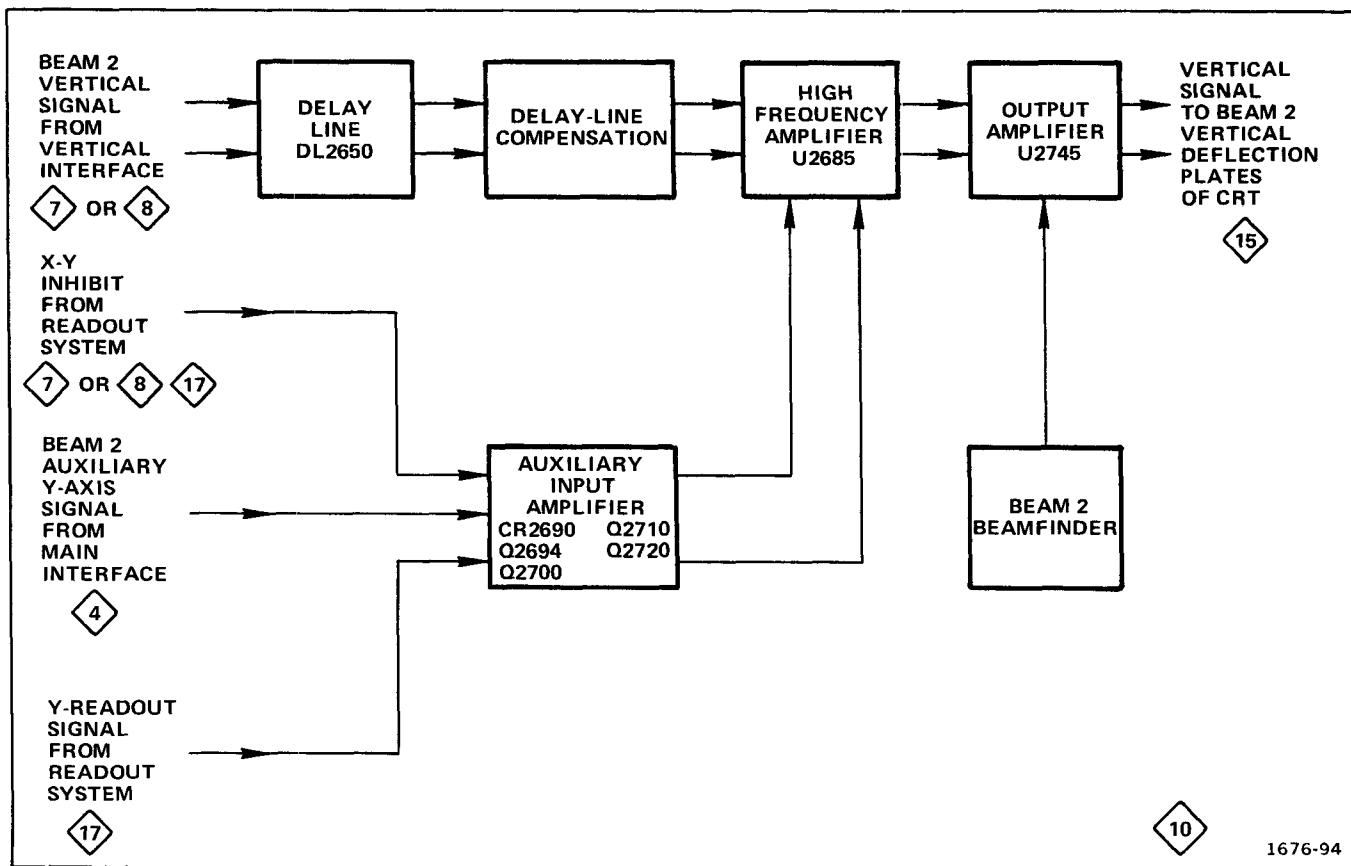

Fig. 3-17. Detailed block diagram of the Beam 2 Vertical Amplifier circuit.
accepts the auxiliary Y-axis input from the Main Interface circuit (diagram 4). Figure 3-17 shows a block diagram of the Beam 2 Vertical Amplifier and a schematic is shown on diagram 10 in the Diagrams section of this manual.
The Beam 2 Vertical Amplifier contains readout circuitry in the Auxiliary Input Amplifier stage (see Fig. 3-17); otherwise, operation is identical to the Beam 1 Vertical Amplifier. The Beam 2 Vertical Amplifier circuit numbers are in the 2000-series, whereas, the Beam 1 Vertical Amplifier circuit numbers are in the 1000-series. For example, U1685 on the Beam 1 Vertical Amplifier (diagram 9) corresponds to U2685 on the Beam 2 Vertical Amplifier (diagram 10). Therefore, the Beam 1 Vertical Amplifier discussion applies to the Beam 2 Vertical Amplifier, except for circuit numbers and the Auxiliary Input Amplifier discussion.
When Readout is not displayed, Q2694 and Q2700 are off. The auxiliary Y-axis signal at J2690 is coupled through CR2690 to the base of Q2720. Transistors Q2720 and Q2710 form a paraphase amplifier to convert the single-ended auxiliary Y-axis input signal to a push-pull signal, which is coupled to the bias inputs of U2685 (refer to Fig. 3-17).
When readout is displayed, the X-Y inhibit signal (HI) at J2738 turns on Q2694. The collector of Q2694 drops, which reverse biases CR2690 and turns on Q2700. The auxiliary Y-axis signal at J2799 is blocked and the Y-readout signal at J2799 is coupled to the base of Q2720. Transistors Q2720 and Q2710 form a paraphase amplifier to convert the single-ended Y-readout input signal to a push-pull signal that is coupled to the bias inputs of U2685 (refer to Fig. 3-17). When Q2700 is on, Readout Centering adjustment R2700 provides vertical centering of the readout display.